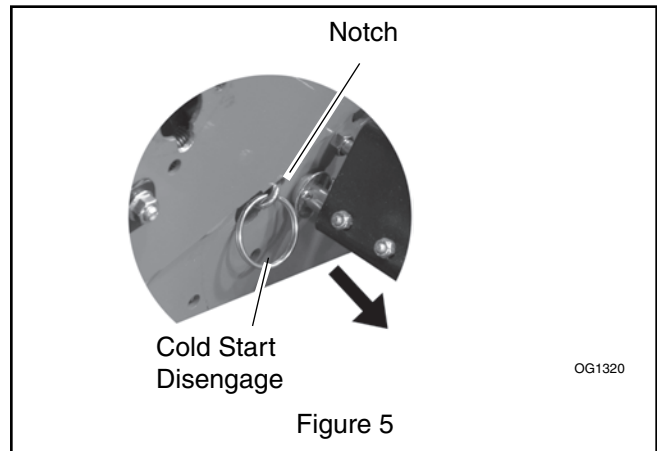

Figure 5
1. Pull out cold start chain 1 to 4 links and lock chain in frame notch (Figure 5).